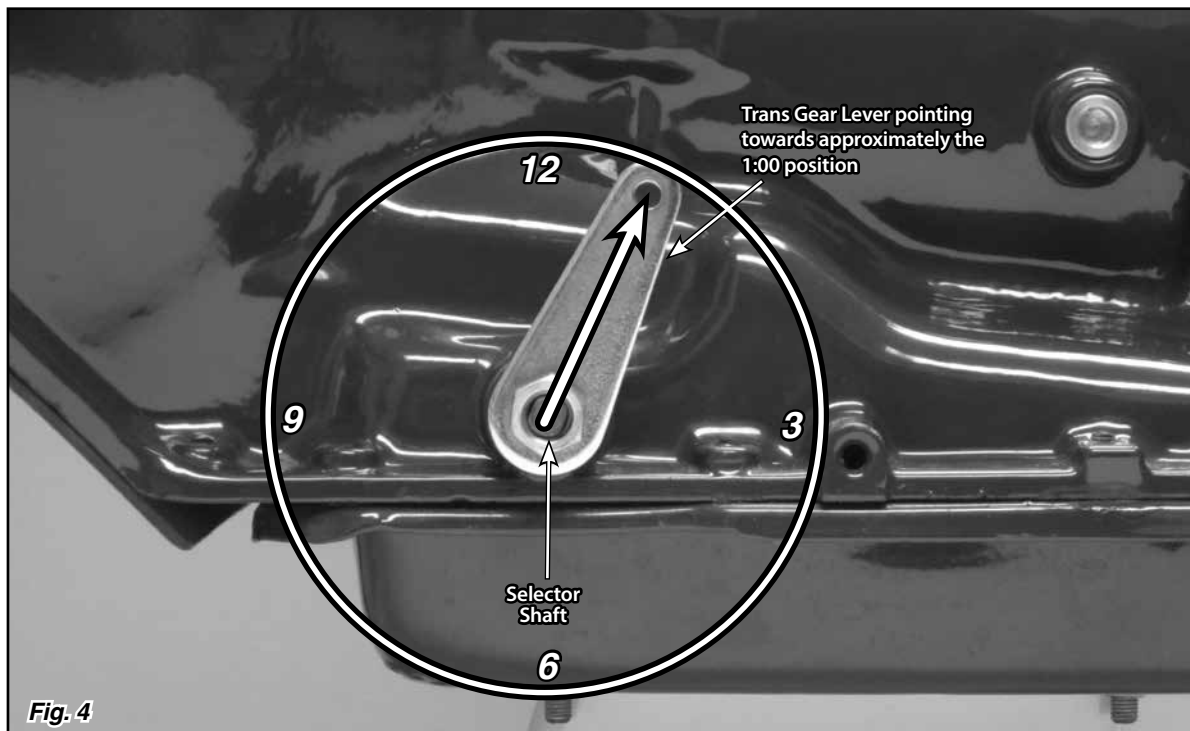

Fig. 4
**Step 9:** Remove the rod end from the new trans gear lever. Install the trans gear lever onto the transmission and secure with your original nut. Place the trans gear lever in the Park position with the top of the lever pointing up and slightly towards the rear of the transmission, at about the 1:00 position. **Fig. 4**